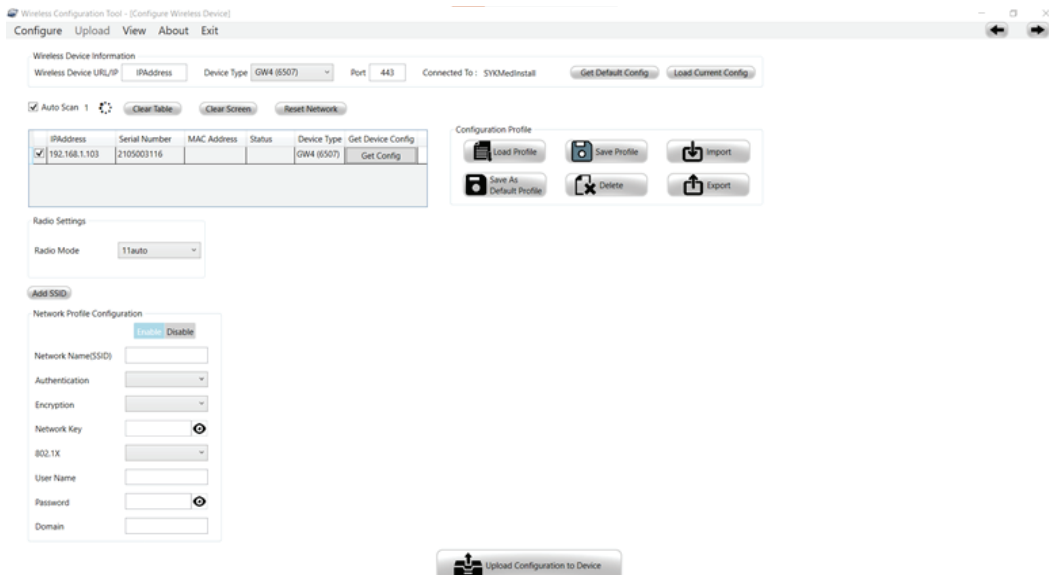

Figure 107 –
7. As the devices start to connect and populate Auto Scan table, select the cot to be activated. The serial number and radio MAC will be listed in the window (Figure 107).